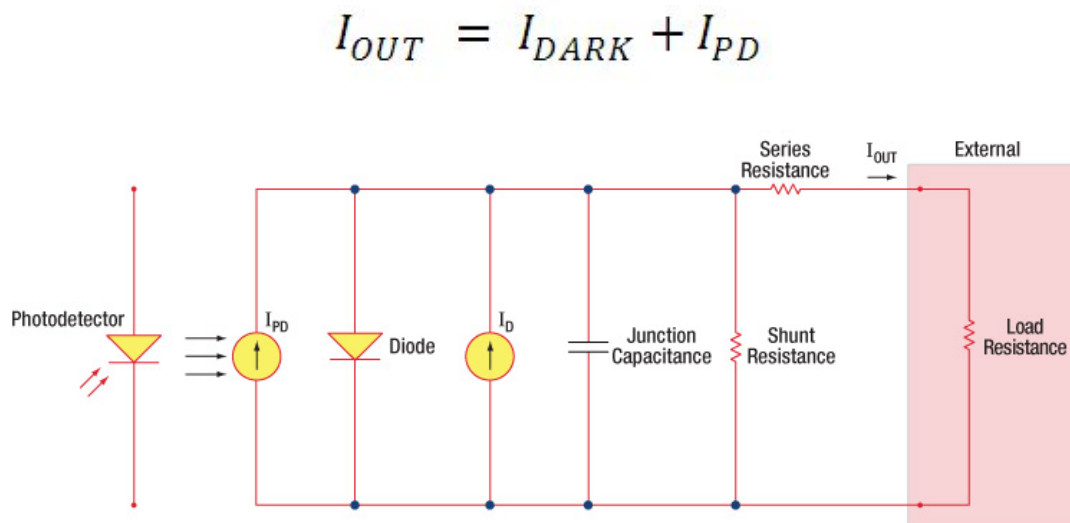
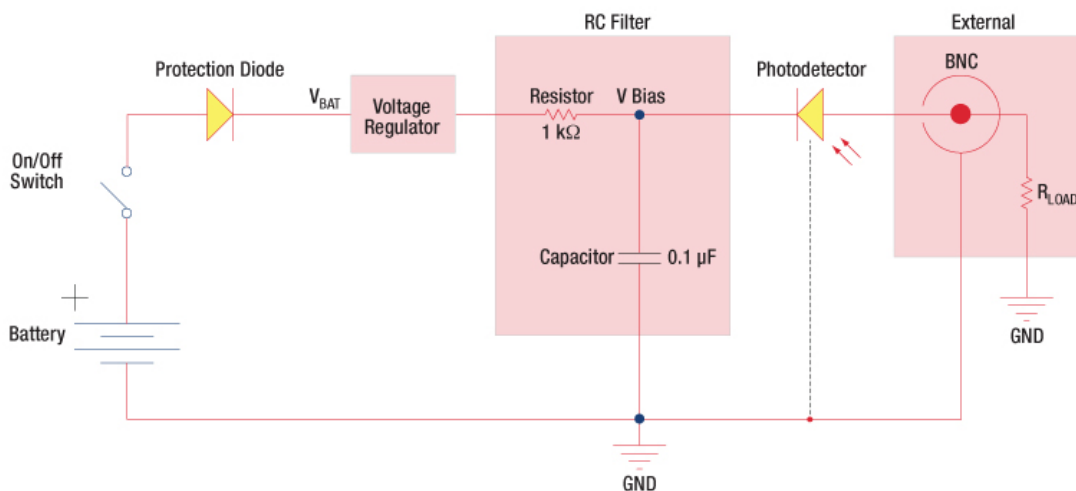

Figure 1: Photodiode Model
Figure 2: Reverse-Biased Circuit (DET Series Detectors)
It is necessary to be able to correctly determine the level of the output current to expect and the responsivity based upon the incident light. Depicted in Figure 1 is a junction photodiode model with basic discrete components to help visualize the main characteristics and gain a better understanding of the operation of Thorlabs' photodiodes.
The images below show examples of electrical circuits that can be used in conjunction with our mounted diodes. Our mounted photodiodes with SM05-threaded (0.535"-40) housings utilize an SMA connector type whereas those with SM1-threaded (1.035"-40) housings have a BNC connector type. Figure 1 below depicts a cathode-grounded photodiode with an example circuit. This is a reverse bias configuration with a positive voltage output. Figure 2 depicts an anode-grounded photodiode with an example circuit. Note that in this instance, the polarity of the power source has been reversed. Figure 2 is also a reverse bias configuration but will have a negative voltage output.
The major difference between the configurations shown in Figures 1 and 2 is the range of the output voltage. Figure 1 will output 0 to +V volts, whereas Figure
Pulsed laser radiation parameters are illustrated in Figure 1 and described in the table. For quick reference, a list of equations are provided below. The document available for download provides this information, as well as an introduction to pulsed laser emission, an overview of relationships among the different parameters, and guidance for applying the calculations.
Figure 1: Parameters used to describe pulsed laser emission are indicated in the plot (above) and described in the table (below). **Pulse energy (E)** is the shaded area under the pulse curve. Pulse energy is, equivalently, the area of the diagonally hashed region.